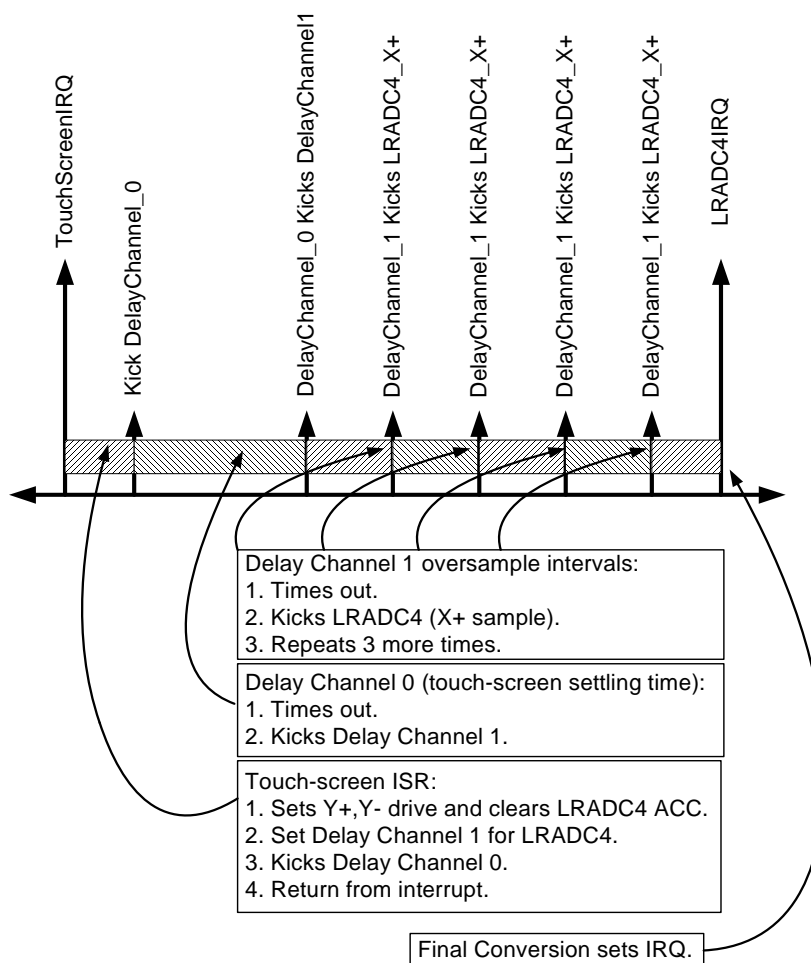

Figure 133. Using Delay Channels to Oversample a Touch-Screen
- Delay Channel 0 is set to delay 1 ms with LOOP_COUNT = 0, i.e., one time. Its TRIGGER_DELAYS field is set to trigger Delay Channel 1 when it times out. The ISR routine kicks off Delay Channel 0 immediately before it does its return from interrupt. Another interrupt (LRADC4_IRQ) is asserted once the entire 4x oversample data capture is complete. A sample timeline for such a sequence is shown in Figure 133.